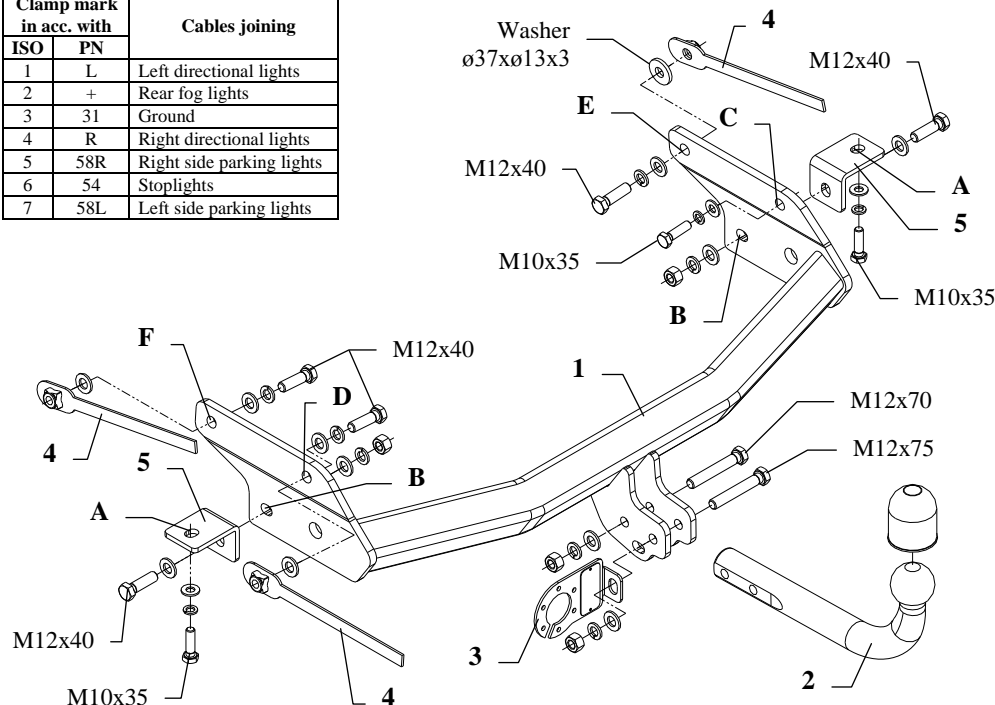

Fig. 1
3. Between installed angle bars put the main bar of the towing hitch (pos. 1) and fix using bolts M12x40mm (pos. 8) through holes (pos. B).
4. On the right side insert bolt M10x35mm in point (pos. C). On the left side insert bolt M12x40mm through hole (pos. D), use nut on the jib (pos. 4). Position the towing hitch horizontally. Drill holes (pos. E and F) in chassis members using bit $\varnothing 13\text{mm}$.
5. Fix the main bar of the towing hitch through holes (pos. E and F) using bolts M12x40mm and nuts on the jibs (pos. 4). On the left side remember about big washer $\varnothing 37 \times \varnothing 13 \times 3\text{mm}$ (pos. 10), see figure 1.
6. Fix tow-ball (pos. 2) with socket plate (pos. 3) using bolts M12x75mm (pos. 6) and M12x70mm (pos. 7) from accessories.